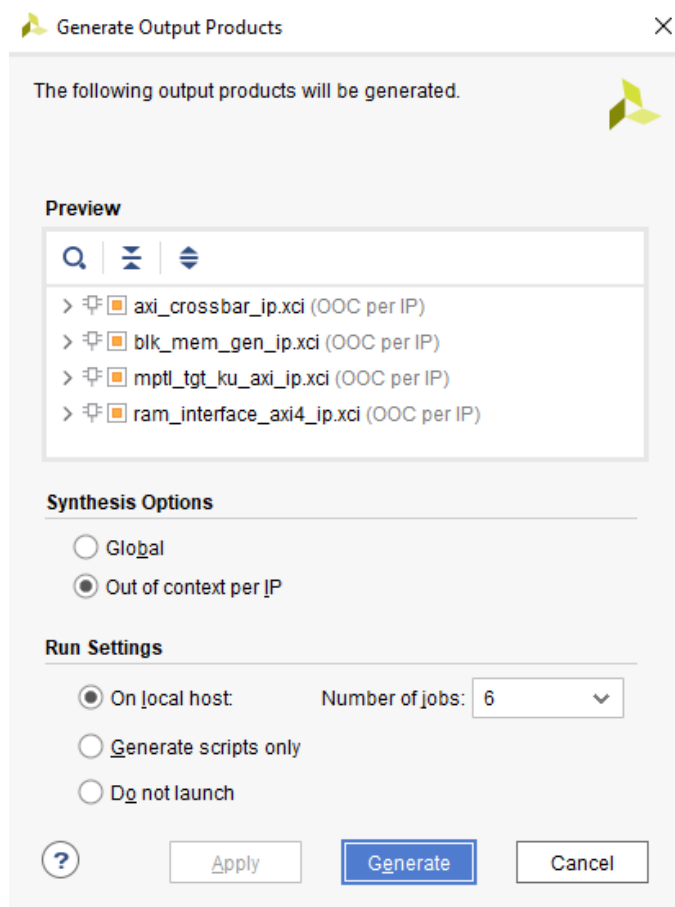

Figure 5 : Generate Output Products GUI for IP
- (1) Open the project in the Vivado GUI.
- (2) In the "Sources" window, select the "IP Sources" tab. Select all the ip and right-click to select "Generate Output Products...".
- (3) A GUI box should appear which resembles the one shown in Figure 5. If the > for any IP is expanded, the list element "Behavioral Simulation" must be present.
- (4) Select the "Generate" button to generate the IP output products.